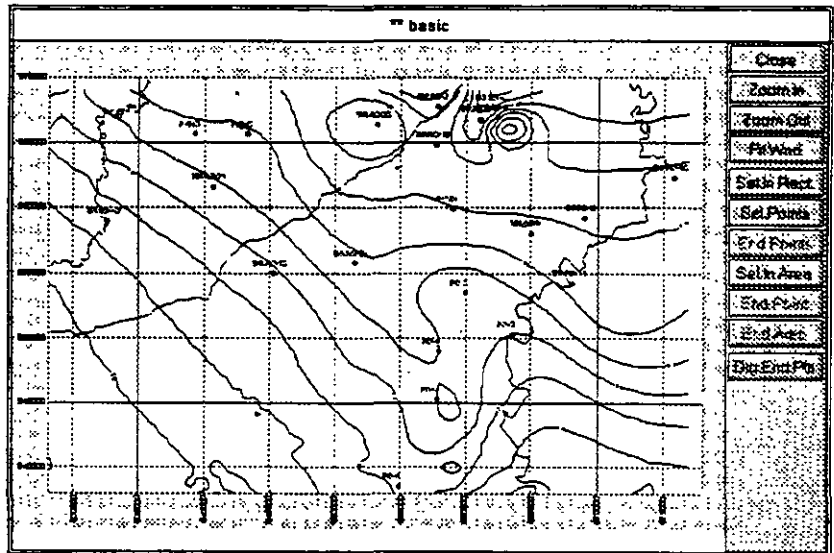

Figure 14-13
3. The map as shown in Figure 14-13 will